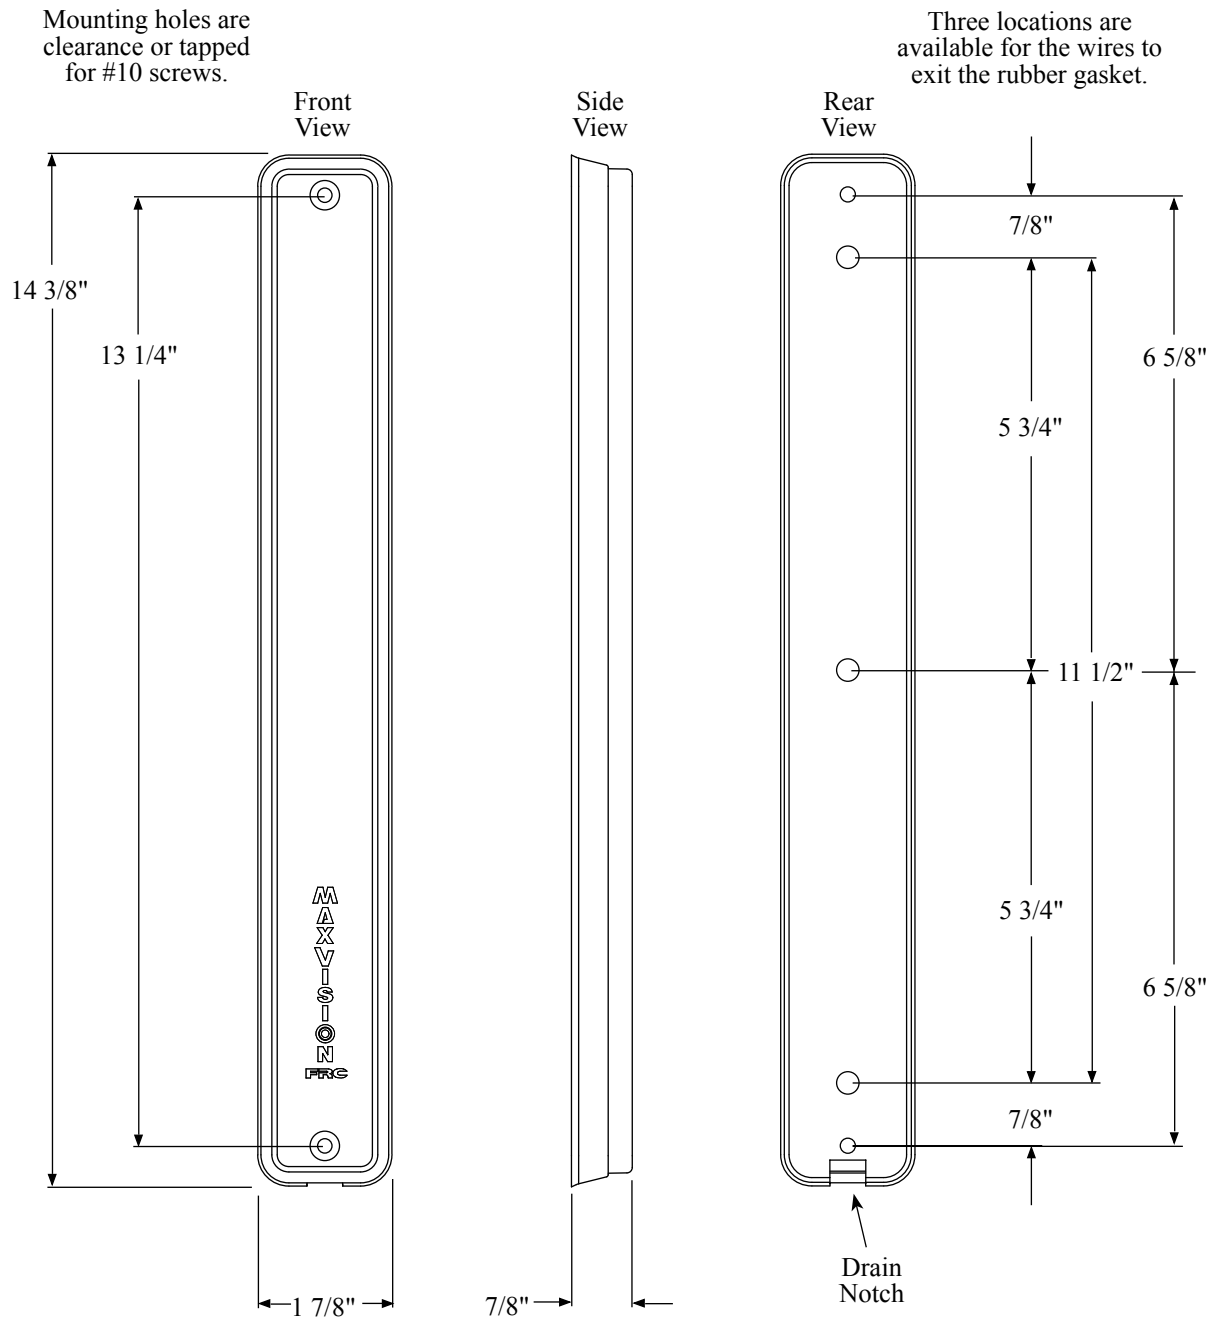

Figure 5. MaxVision LED Display Mounting Dimensions
1. Measure and mark mounting location for light driver. Make sure there is clearance for driver and cable before drilling holes. Refer to Figure 5 for dimensions.